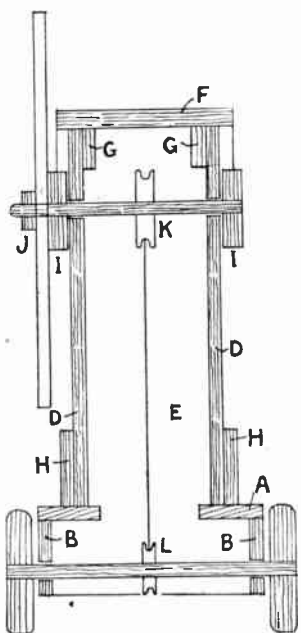

Fig. 3—Another sectional drawing to help the constructor
pattern sheet. It will be observed that the two pieces (G) hold the roof slopes together and slide down on the inside of the front and back of the mill. The ultimate position of the two parts (G) is shown in Fig. 3.